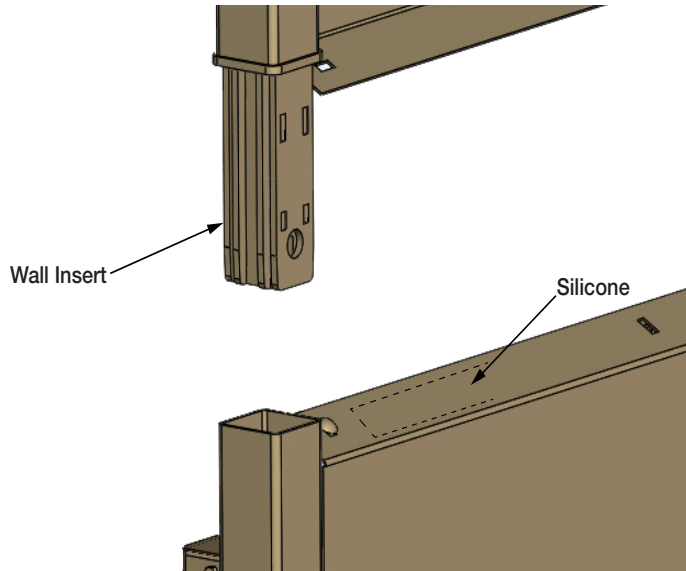

Figure 2-3. Silicon Bead
2. Apply a 1/8" bead of silicone along the upper edge of the floor panel along the entire length as shown in Figure 2-3.